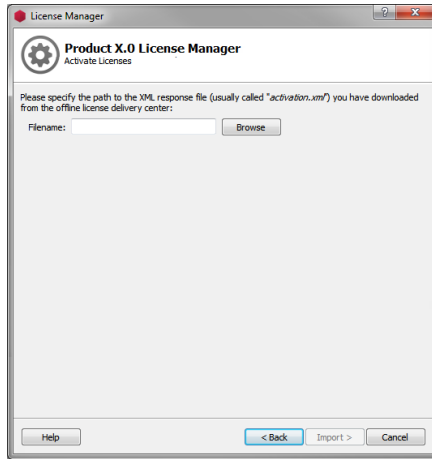

Figure 1.14: License Manager - Offline Import
6. Click **Next** to import the *activation.xml* file and resume your activation request (see Figure 1.14).